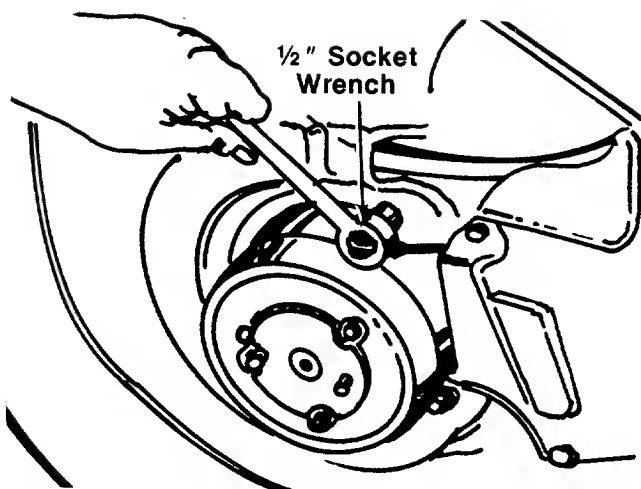

FIGURE 31.
11. Support the engine with one hand. Remove the three self-tapping screws which secure the deck and blade brake/clutch to the engine. A 1/2" socket wrench is required. See figure 31.